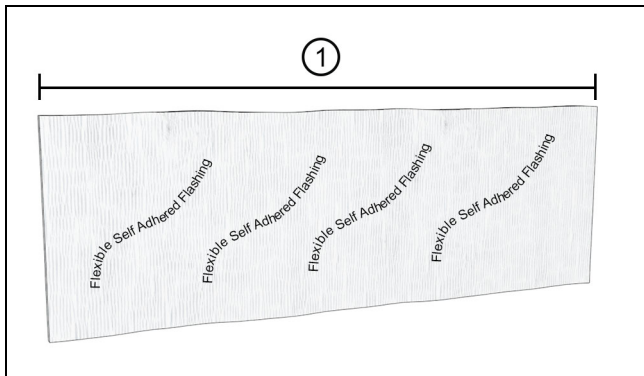

Figure 15
1. Cut one 18" (457) strip of Type III flexible self adhered pan flashing material. See Figure 15.